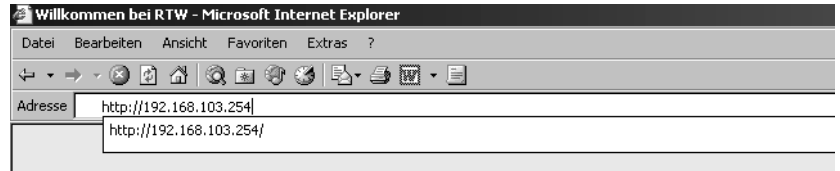

Fig. 8-19: Entering the IP-Address
1. Start your internet browser and enter `http://192.168.103.254` in the address field (see Fig. 8-19) followed by the hit of the return (Enter) key.